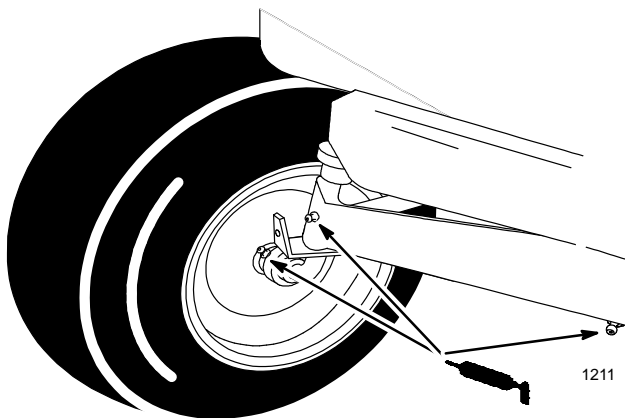

Figure 25
1. Lubricate the front wheels and spindles until grease begins to ooze out of the bearings (Fig. 25).
2. Lubricate the front axle pivot (Fig. 25).